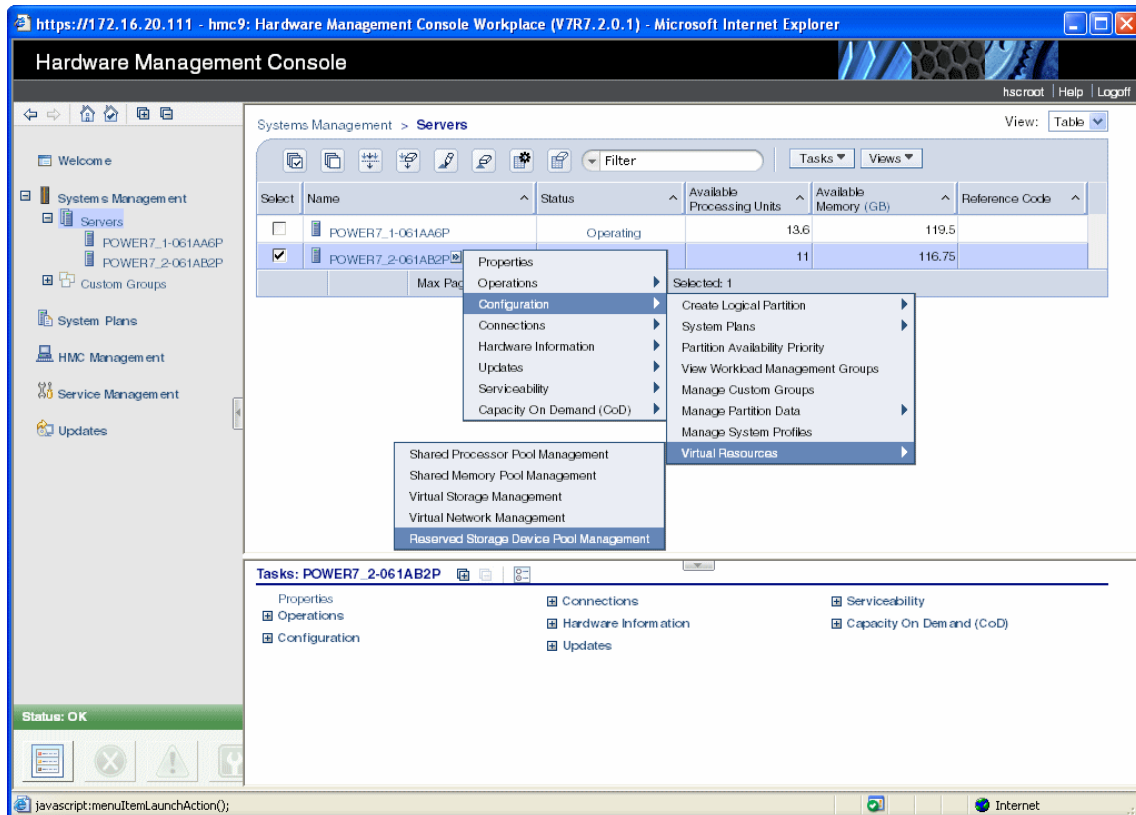

Figure 17-21 Reserved storage device pool management access menu
1. On the HMC, select the managed system on which the reserved storage device pool must be created, then select **Configuration** → **Virtual Resources** → **Reserved Storage Device Pool Manager**, as shown in Figure 17-21.